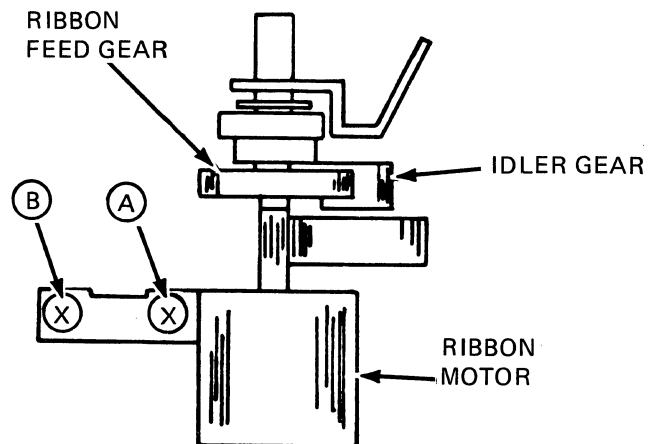

Figure 5-7 Ribbon Feed Gear Adjustment
- b. Loosen screws A and B (see Figure 5-7) and move the motor to remove backlash in the gears.